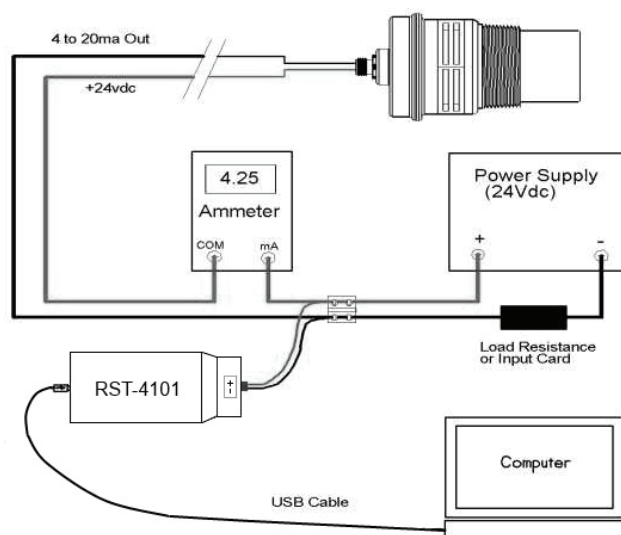

Figure 2.2
- Ensure that load resistor is between RST-4101 and control network or PLC, rather than between sensor and RST-4001. (See Figure 2.2)